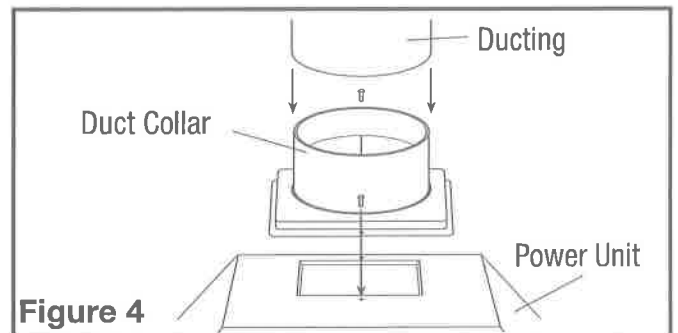

Figure 4
1. Install the included duct collar to the hood with two of the provided #6 blunt tip screws (Figure 4).
2. When there is access to the top of the unit, connect the ducting to the duct collar and secure in place using tape to seal all joints (Figure 4).